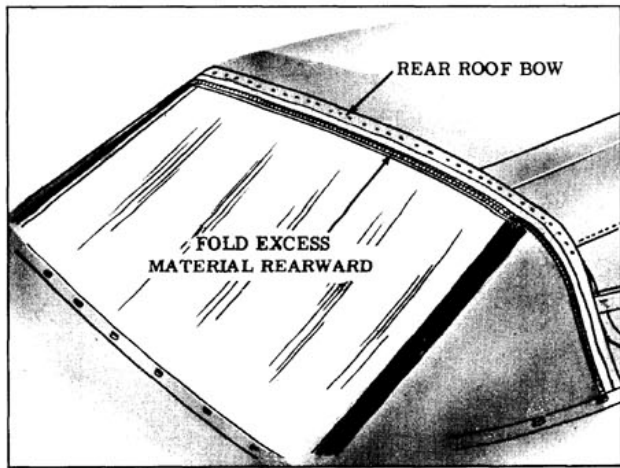

Fig. 16-139 Curtain Installation at Rear Bow
15. Working from body center progressively outboard to right and left sides, tack back curtain upper valance to rear bow. Make sure all fullness has been drawn from curtain assembly. Fold excess back curtain upper valance material rearward and tack to rear bow. (Fig. 16-139)